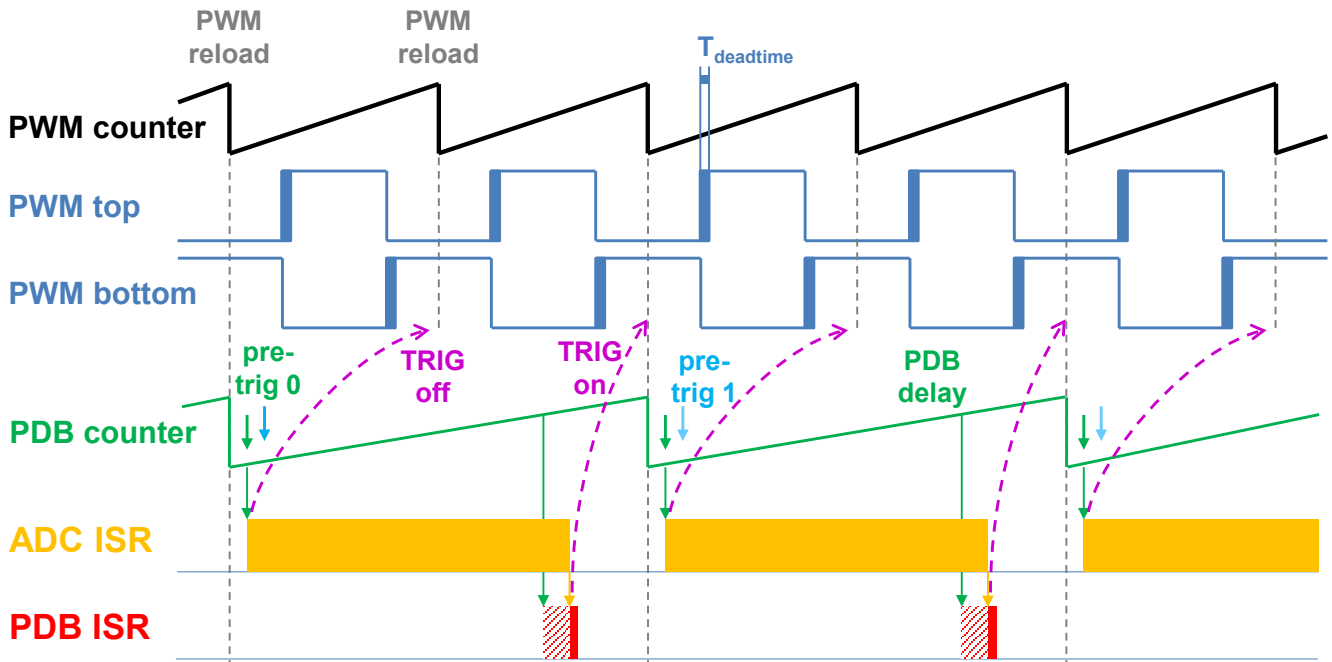

Figure 9. Hardware timing and synchronization on KV11Z and KV10Z
- The PDB Delay interrupt is enabled. This interrupt is generated when the PDB_IDLY is reached. This interrupt enables the FTM_TRIG (see Figure 9).